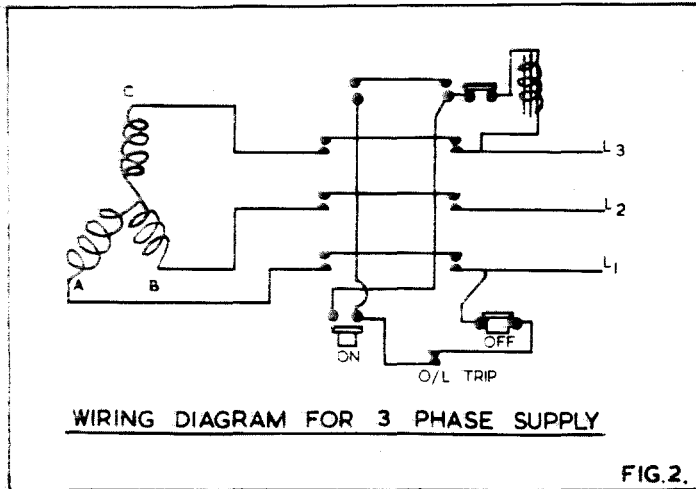
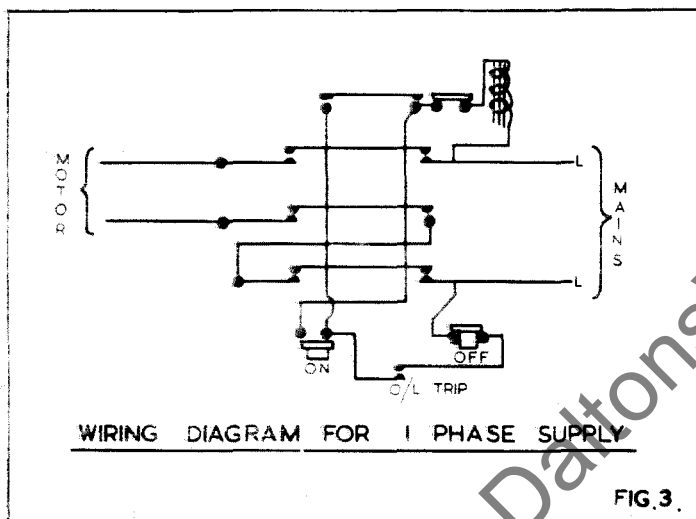

FIG. 2.
FIG. 3.
4. Connect the line leads to the appropriate terminals. See fig. 2 for 3 phase supply and fig. 3 for 1 phase supply.